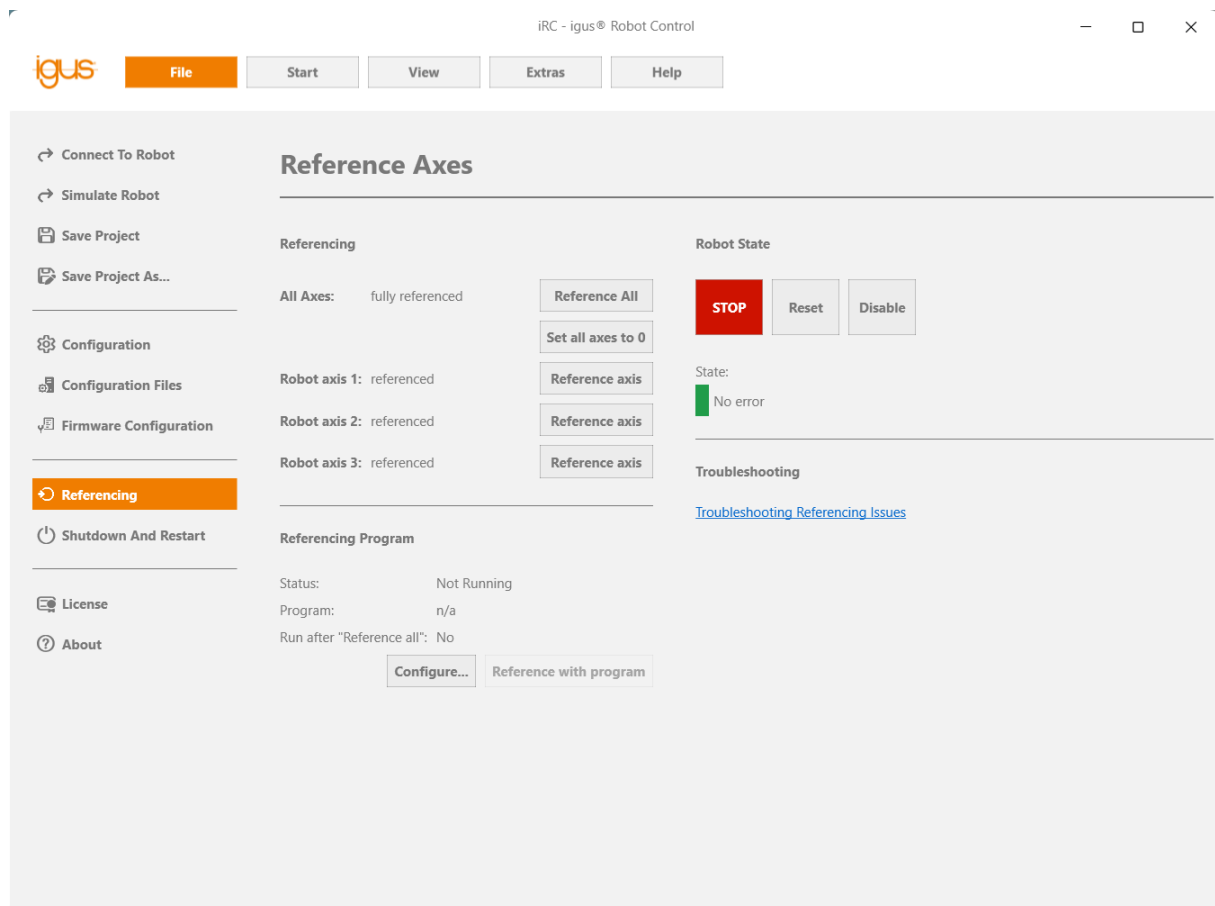

Figure 12: Referencing of the axes.
4. Click on the "Reference Axis" buttons to start referencing an axis, see Fig. 12. Multiple joints can perform referencing in parallel.